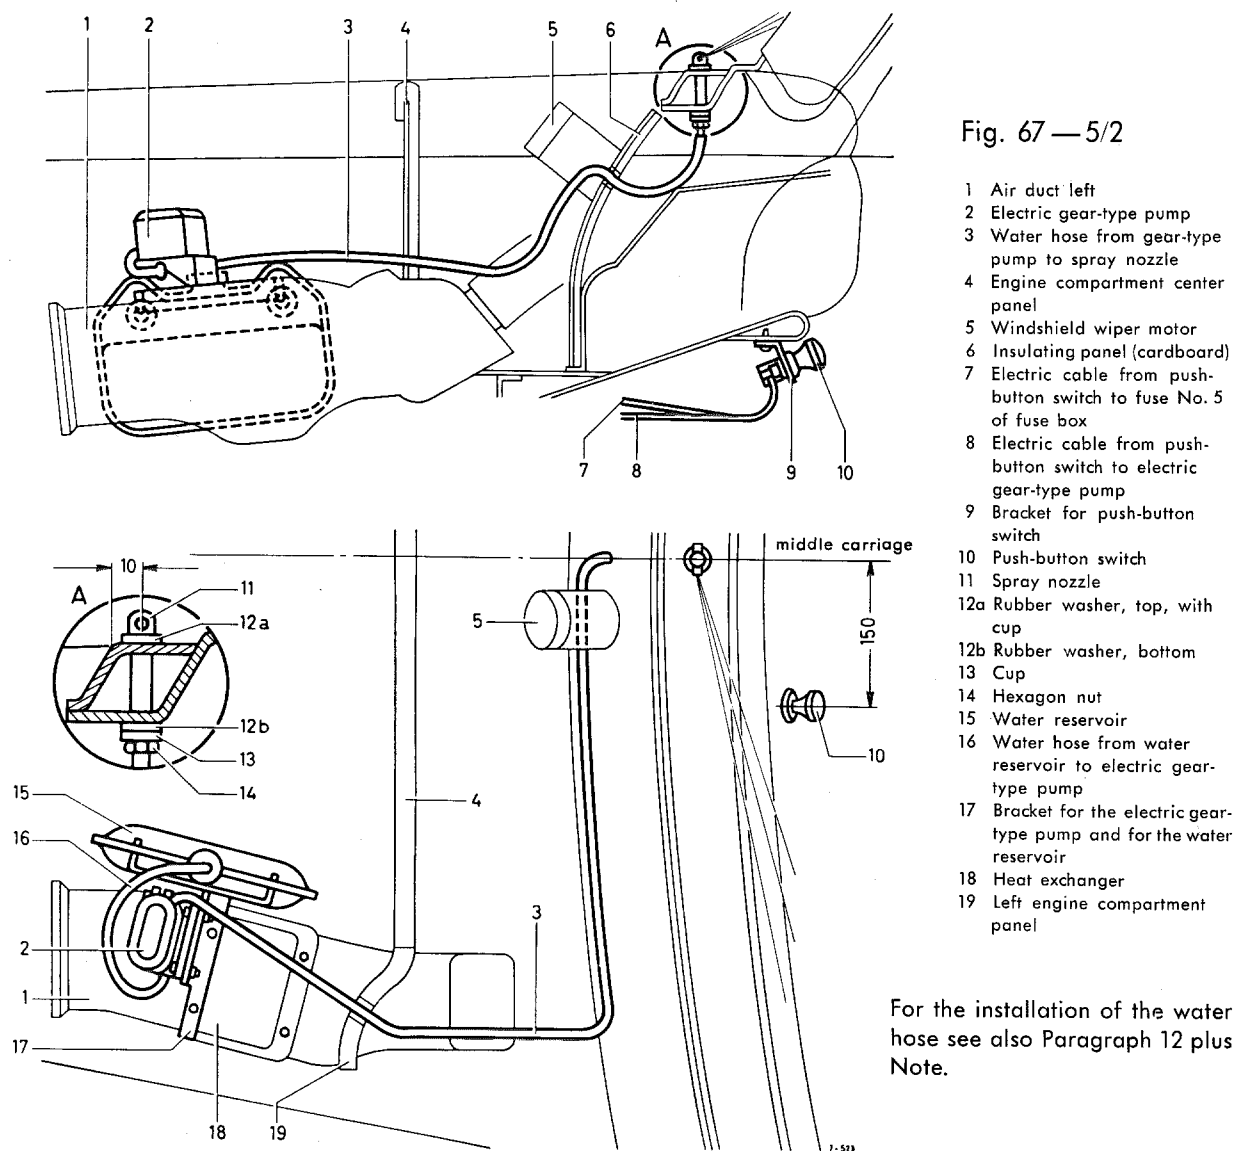

Fig. 67 — 5/2
3. Hold the bracket (9) for the push-pull switch (10) against the reinforcement plate under the instrument panel approx. 150 mm to the left from the car center line (see Fig. 67 — 5/2), mark the 2 holes for the cheese-head tapping screws and drill the holes to 3.4 mm  $\varnothing$ .
4. Screw the bracket (4) to the reinforcement plate by means of the 2 cheese-head tapping screws Z 4.2  $\times$  16 DIN 7971 (see Fig. 67 — 5/2).
5. Install the bracket (17) at the left air duct (1); to do this, unscrew the 2 front fixing screws for the heat exchanger (18), fit the bracket (17), and screw the fixing screws in again (see Fig. 67 — 5/2).
6. Screw the electric gear-type pump (2) to the bracket (17) by means of the 2 cheese-head screws AM 6  $\times$  20 DIN 84.
7. Connect the two black electric cables 750 mm and 1400 mm long to the push-pull switch (10). Place the push-pull switch (10) in the bracket (9) and fix it by tightening the escutcheon by means of Hook Wrench 136 589 02 05.